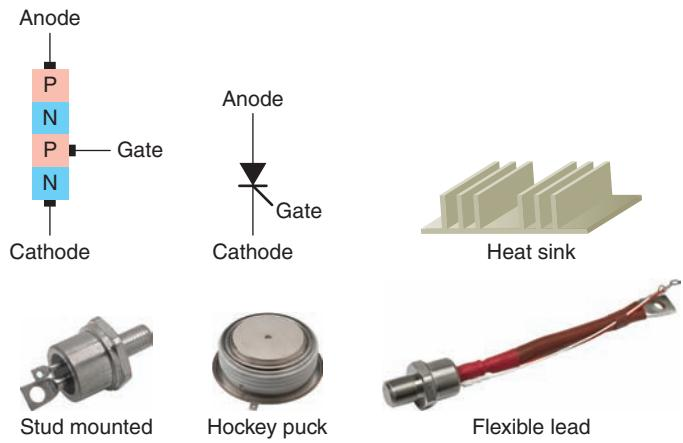

Figure 9-29 Silicon-controlled rectifier (SCR).
Silicon-controlled rectifiers (SCRs) are similar to silicon diodes except for a third terminal, or gate, which controls, or turns on, the SCR. Basically the **SCR** is a four-layer (PNPN) semiconductor device composed of an anode (A), cathode (K), and gate (G), as shown in Figure 9-29. Common SCR case styles include stud-mounted, hockey puck, and flexible lead. SCRs function as switches to turn on or off small or large amounts of power. High-current SCRs that can handle load currents in the thousands of amperes have provisions for some type of heat sink to dissipate the heat generated by the device.